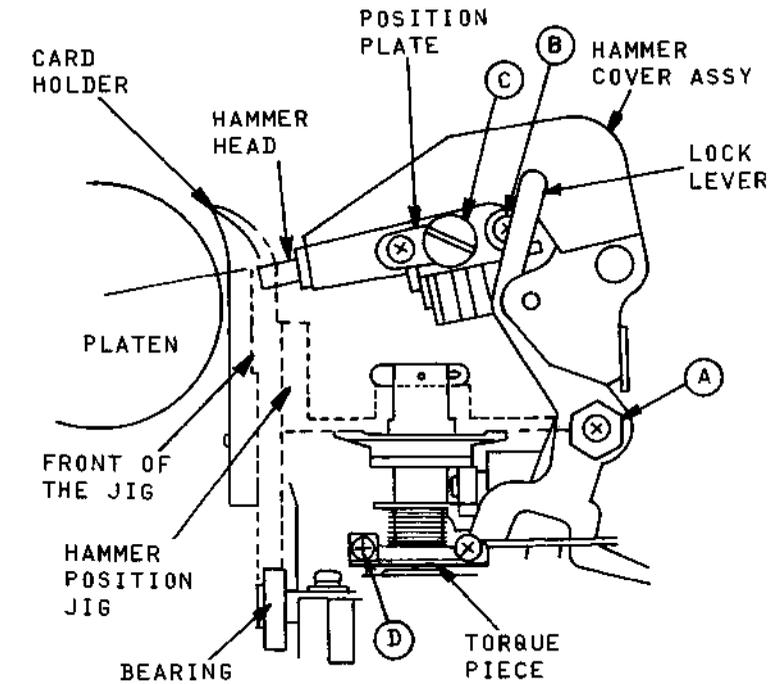

Figure 5-1 Print Hammer Adjustment
- a. Refer to Figure 5-1. Loosen the screw securing eccentric stud A.
#### 5.2.2 Hammer Position Adjustment (Figure 5-1).
- b. Loosen the holding screws B and C on both sides of hammer (Figure 5-1).
- c. To adjust, loosen screw D (Figure 5-1) of the torque piece and rotate the torque piece for proper alignment.